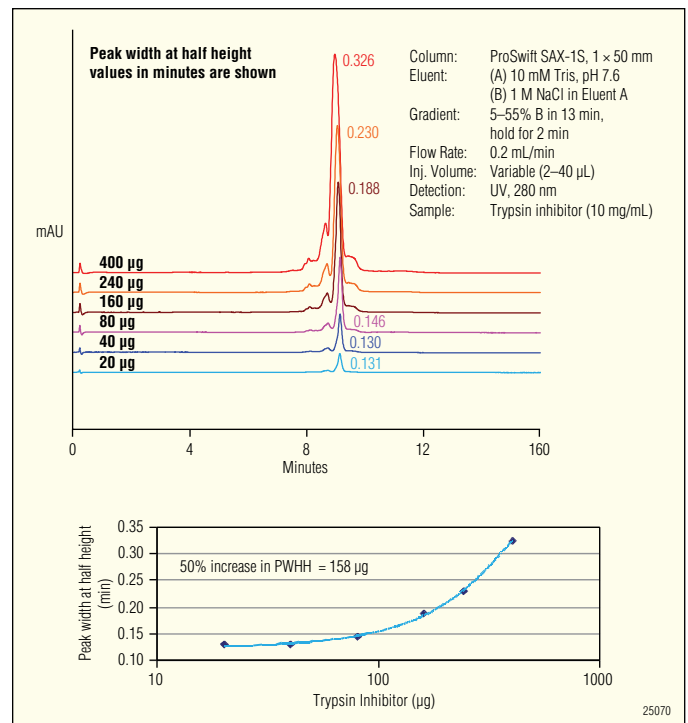
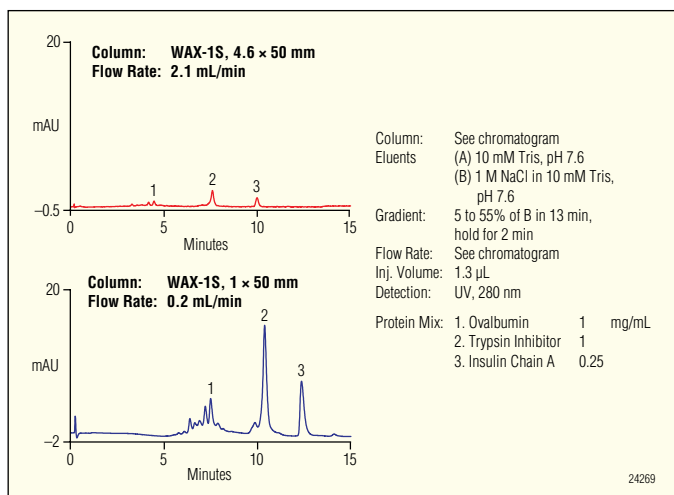

Figure 6. Dynamic Loading of ProSwift SAX-1S, 1 x 50 mm.
Figure 7. Sensitivity of 1-mm column vs 4.6-mm column.
- The 1-mm format columns show high loading capacity (Figure 6) coupled with excellent mass sensitivity (Figure 7), making them an excellent choice for analysis where sample is limited or where a sample contains the protein of interest in low abundance. Large amounts of protein can be loaded without loss of resolution of this protein.